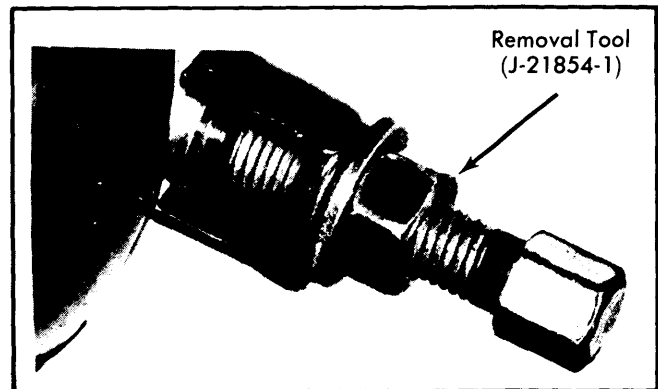

Fig. 10 Removing Tilt Pivot Pins
12) Place housing in center position. Using suitable puller (J-21854-1) remove tilt pivot pins (see Fig. 10). Lift tilt release lever to disengage lock shoes and remove housing. Remove both ball bearing assemblies from housing (if necessary).